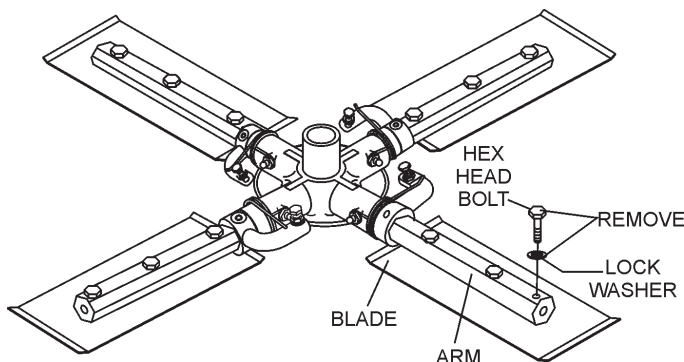

Figure 47. Trowel Blades
- Remove the trowel blades from the trowel arm by removing the three hex head bolts (Figure 47) from the trowel arm. Set blades aside.